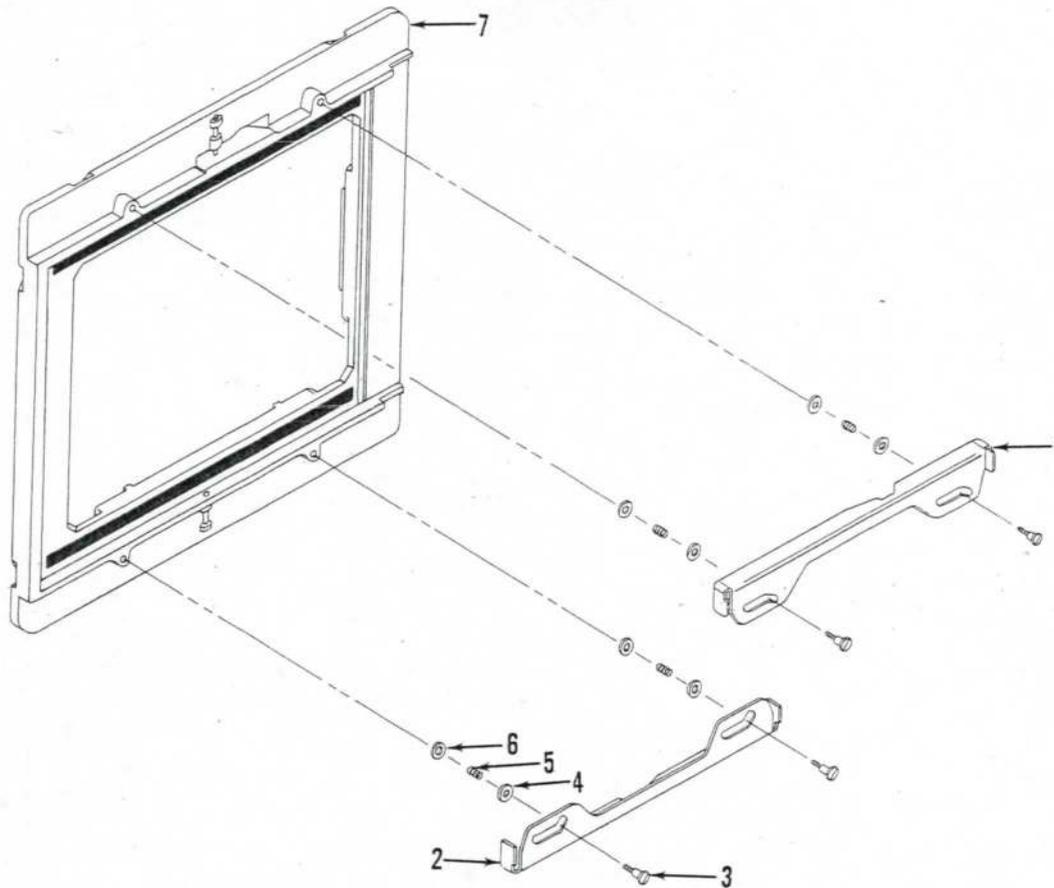

Figure 19C. REVOLVING FRAME COMPLETE
2. Remove revolving ring (7) from grooved track of revolving frame complete (8). If disassembly of revolving frame complete is necessary, see figure 19C.
#### R. REVOLVING FRAME COMPLETE - DISASSEMBLY (figure 19C)
#### S. REVOLVING FRAME COMPLETE - REASSEMBLY (figure 19C).